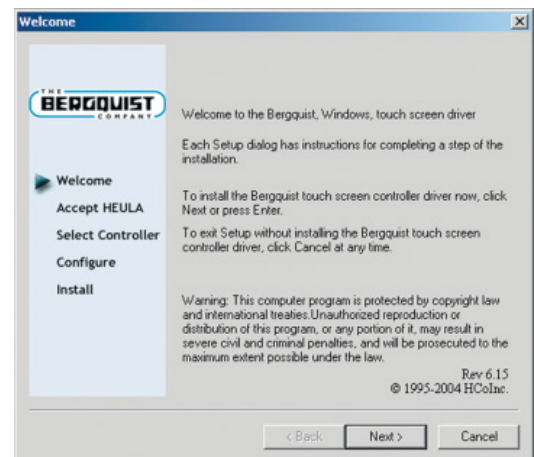

Figure 1
4. The **Welcome to Bergquist** installation screen will appear (see Figure 1). Read the information on the screen, then click "Next."